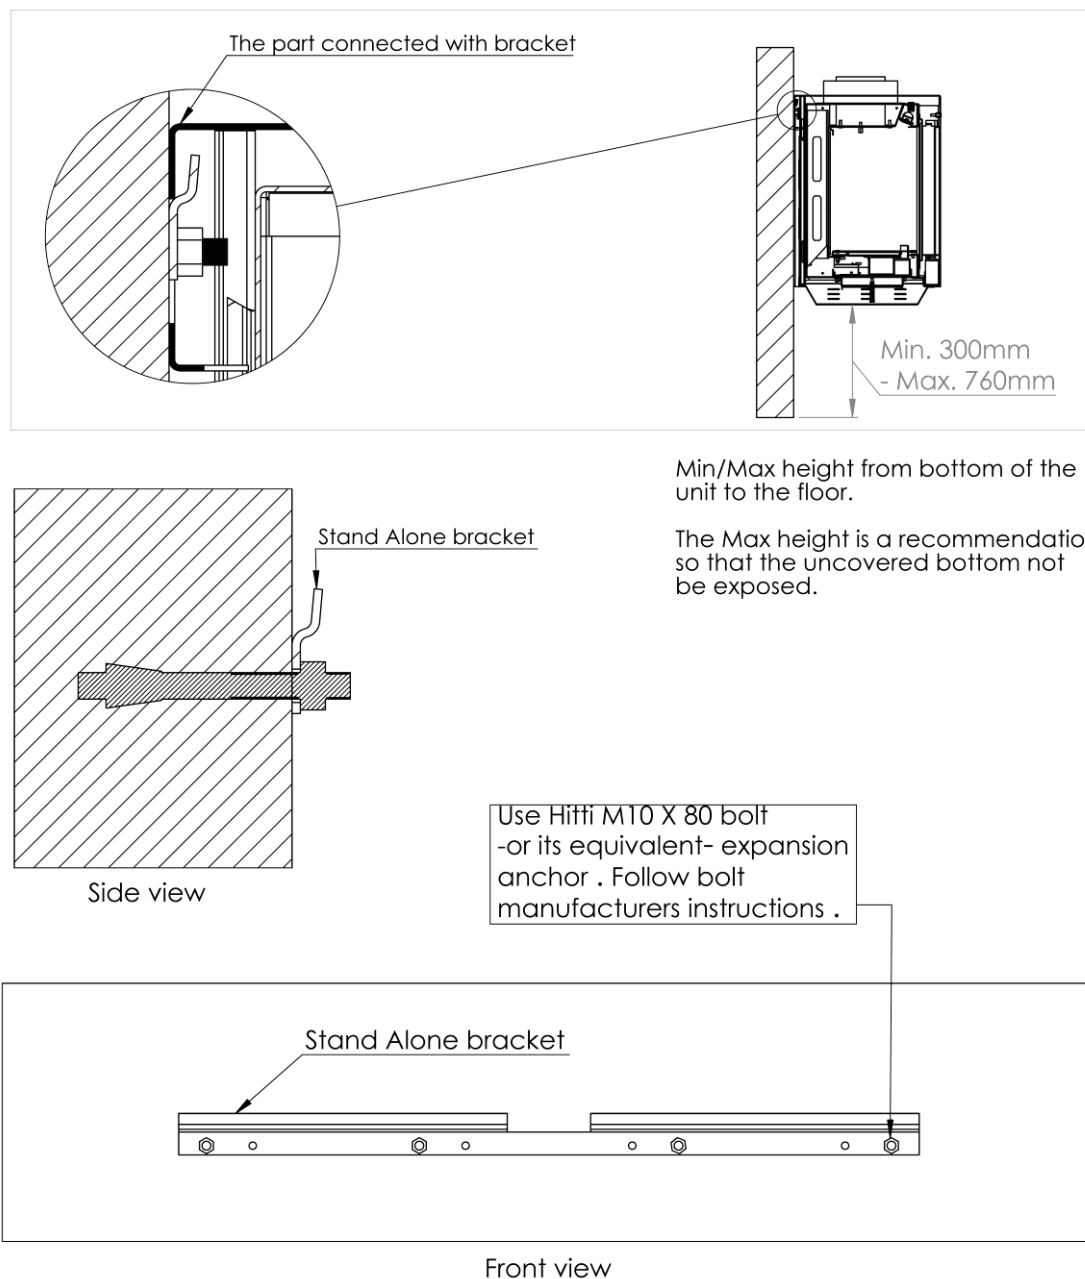

Figure 18: Concrete Wall Mounting Detail
5. Attach the unit to the mounting bracket. (See Figure 18 on page 99).